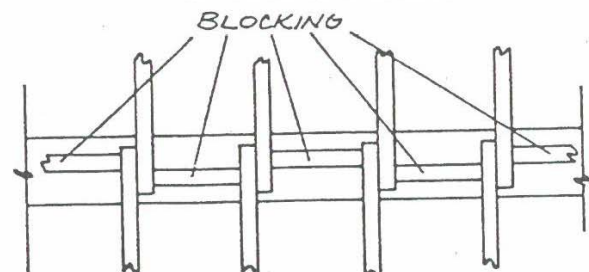

FIGURE 5
11. Install solid blocking between joists over the girder to help keep the joists parallel and to straighten any that tend to twist. Nail blocking on alternate sides of the girder centerline (see Figure 5). Drive two 16d nails into each end of each piece of blocking. Keep solid blocking flush with the top edges of the joists.
10. Frame interior walls. Interior partitions are laid out exactly like exterior walls except that no sheathing or siding is attached. Interior walls should be braced diagonally during raising and, where necessary, nailed to exterior walls at their intersection. When all walls are in place, apply a second layer of top plates throughout. Make sure that butt joints in the two layers are offset, and that the double-plates are properly lapped, to tie together all intersect walls (see Figure 5)